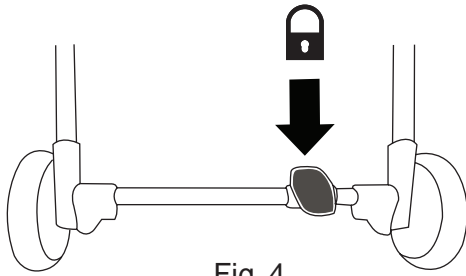

Fig. 4
- **To engage brakes:** Apply light downward pressure to the linked brake lever located on the right side of the rear wheel axle. (Fig. 4) Check to make sure the brakes are in a fully locked position, making sure stroller will not move when pushed.